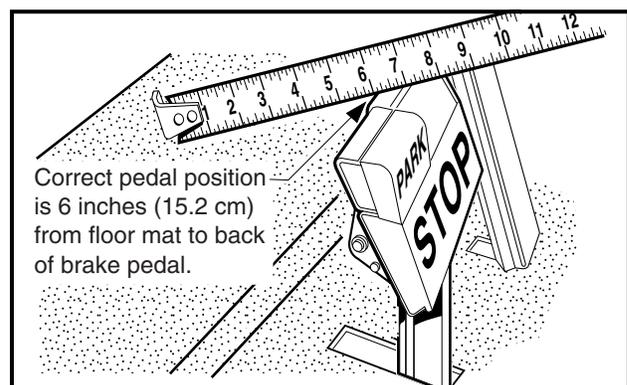

**Figure 5-33 Loosen Rear Brake Equalizer Rod Nuts**
- 2.2. To provide slack in the brake cables, loosen the equalizer retaining nuts (2 and 3) on the equalizer rods (1) (**Figure 5-33, Page 5-21**).